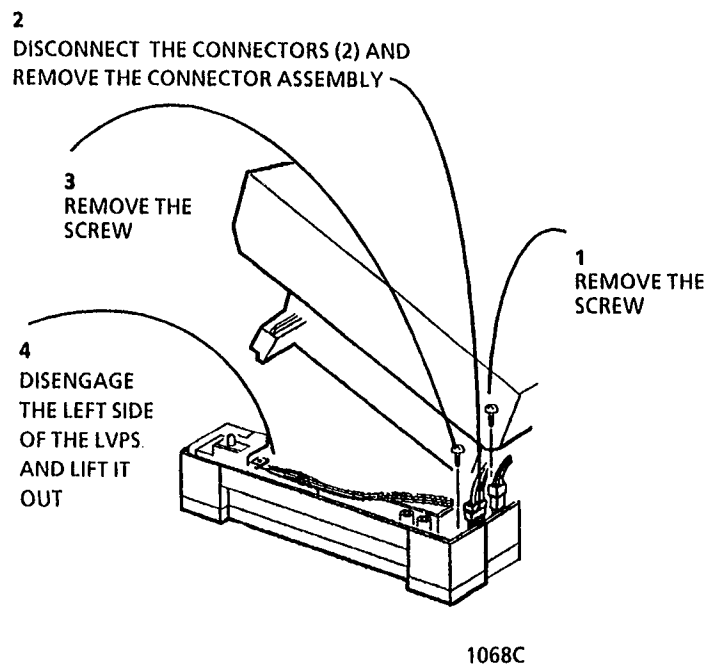

Figure 1. Removing the LVPS
2. (Figure 1): Remove the Low Voltage Power Supply.